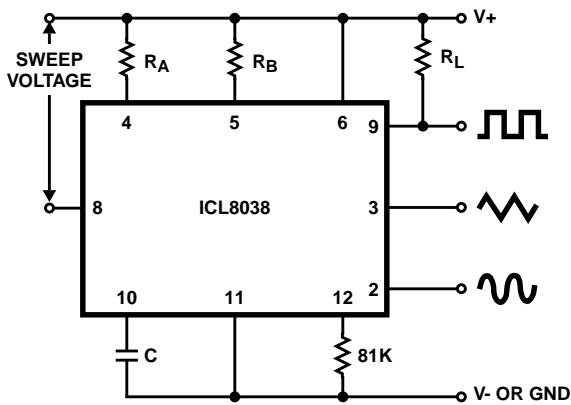

FIGURE 5B. CONNECTIONS FOR FREQUENCY SWEEP
- The hi and lo frequencies can be obtained by connecting pin 8 to pin 7 ( $f_{\text{HI}}$ ) and then connecting pin 8 to pin 6 ( $f_{\text{LO}}$ ). Otherwise apply Sweep Voltage at pin 8 ( $\frac{2}{3} V_{\text{SUPPLY}} + 2\text{V}$ )  $\leq V_{\text{SWEEP}} \leq V_{\text{SUPPLY}}$  where  $V_{\text{SUPPLY}}$  is the total supply voltage. In Figure 5B, pin 8 should vary between 5.3V and 10V with respect to ground.
For larger FM deviations or for frequency sweeping, the modulating signal is applied between the positive supply voltage and pin 8 (Figure 5B). In this way the entire bias for the current sources is created by the modulating signal, and a very large (e.g. 1000:1) sweep range is created (f = 0 at VSWEPT = 0). Care must be taken, however, to regulate the supply voltage; in this configuration the charge current is no longer a function of the supply voltage (yet the trigger thresholds still are) and thus the frequency becomes dependent on the supply voltage. The potential on Pin 8 may be swept down from V+ by (1/3 VSUPPLY - 2V).